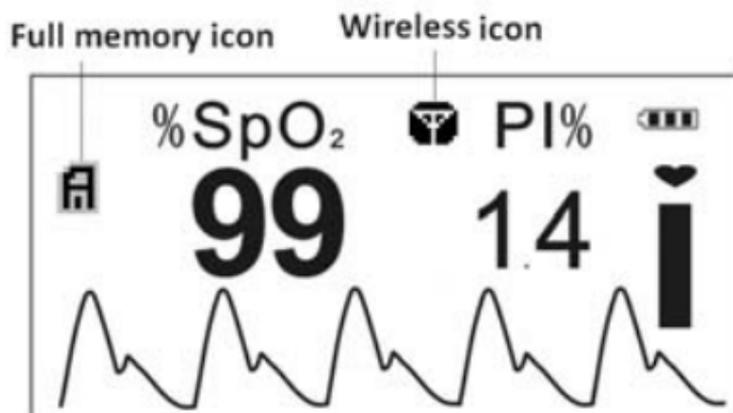

Figure 11 When Memory is Full
- During measurement, if the memory is full or the total number of the records reaches to 1024 pieces, the earliest record will be overwritten and the icon “” will appear on the screen for prompt, as shown in Figure 11.